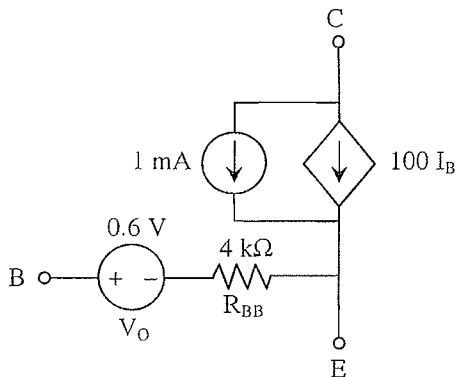
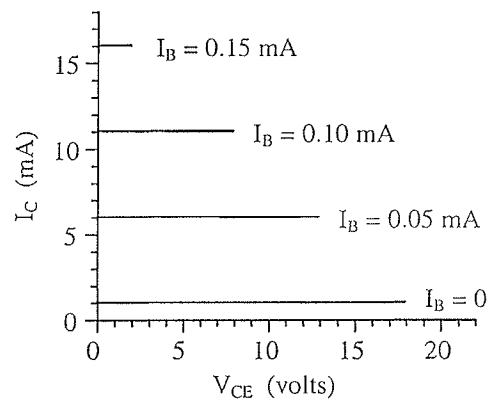
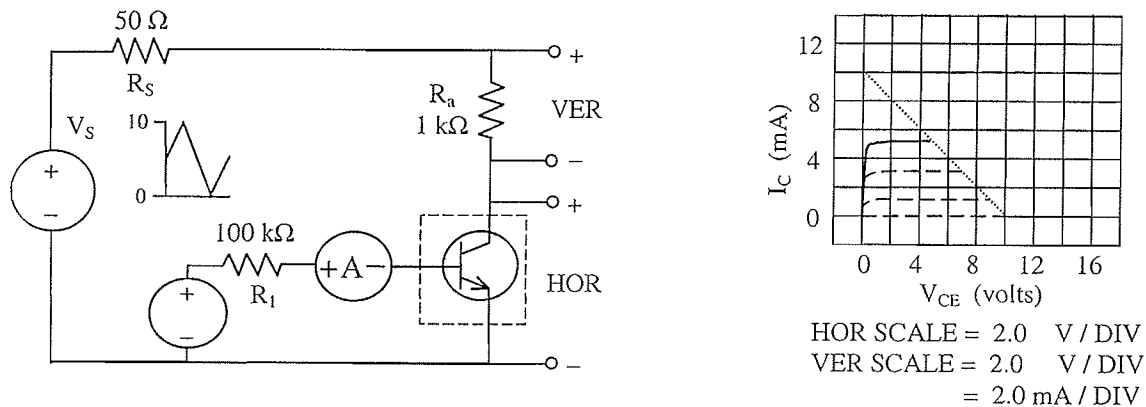

Fig. 3.2. DC Model for an NPN Transistor,  $\beta_{dc} = 100$ .
Fig. 3.3. Collector Characteristics for the DC Model in Figure 3.2.
Fig. 4.1. A Test Set to Obtain Collector Characteristics of an NPN Transistor.
Figure 3.2 shows a model for a particular transistor. The curves shown in Figure 3.3 are the *collector characteristics* of the transistor. Each curve (horizontal line segment) is the IV characteristic of the collector-emitter terminals for a constant base current.  $\beta_{dc}$  and  $I_{CEO}$  may be determined from the collector characteristics (and vice-versa):
The test circuit of Figure 4.1 consists of two loops:
To obtain the solid characteristic curve shown in Figure 4.1, the base current is set to a desired value and  $V_S$  is automatically swept from 0 to a peak voltage of 12 V. The dashed curves represent characteristics obtained using other, evenly spaced, values of base current.
**Determination of  $\beta_{dc}$**  is more complicated. Unlike the curves shown in Figure 3.3, the curves shown in Figure 4.1 are not, necessarily, evenly spaced. This uneven spacing indicates that  $\beta_{dc}$  is not a constant. This variation of  $\beta_{dc}$  across the operating region is dealt with by determining  $\beta_{dc}$  near the desired operating point. For example, the solid curve in Figure 4.1 passes through the point ( $V_{CE} = 5$  V,  $I_C = 5$  mA). To determine  $\beta_{dc}$  at that operating point:
The dc model is a drawing, similar to Figure 3.2 labelled with these parameters.
- 7.4 Construct the test set shown in Figure 4.1. Use the test set to test a 2N3704.